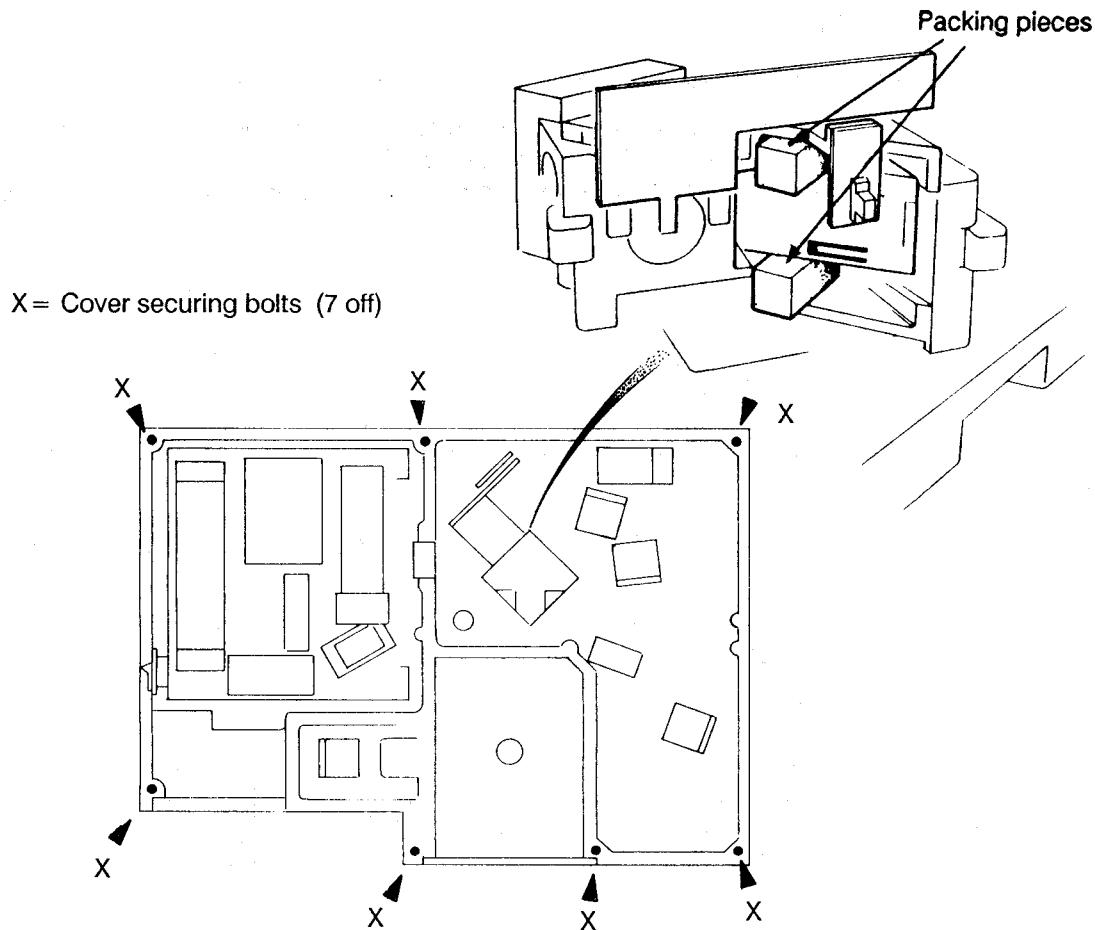

Fig 3.2 Cover and packing piece removal
- (b) Carefully pull the front of the Optical Bench forward so the front overhangs the desk on which it is sited. Using the hexagonal wrench supplied, remove the four cover securing bolts from the underside of the instrument (Fig 3.2). Turn the instrument around and repeat, removing the three hexagonal bolts securing the rear of the instrument cover to its base. Carefully lift the cover directly upwards and clear of the base.
- (c) Locate and remove the two packing pieces restraining the rocker arm of the interferometer assembly (Fig 3.2).